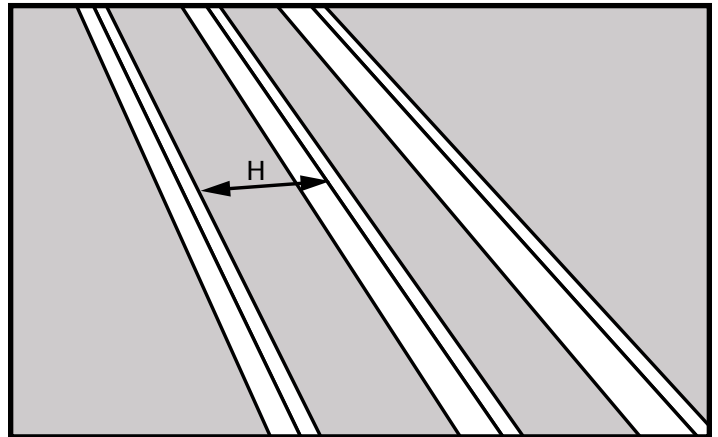

Figure 12
- STEP 1.** Measure the header length "H" between the joists as shown in Figure 12.